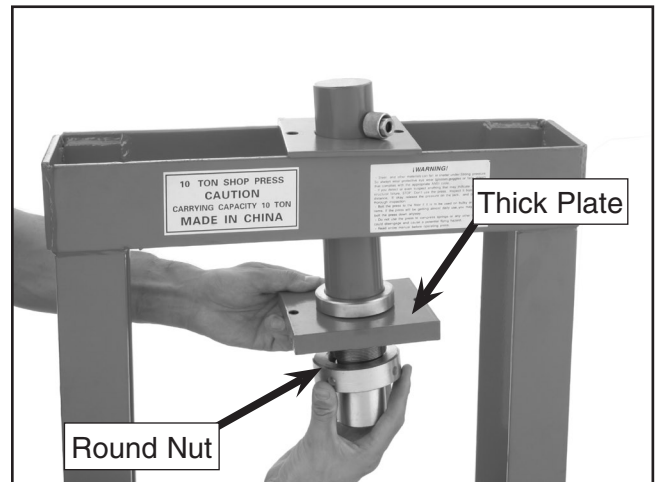

Figure 5. Thick plate installation.
6. Center the pressure head assembly on the crossbar, slide the thick plate against the upper round nut, and screw on another round nut to secure the thick plate (**Figure 5**).